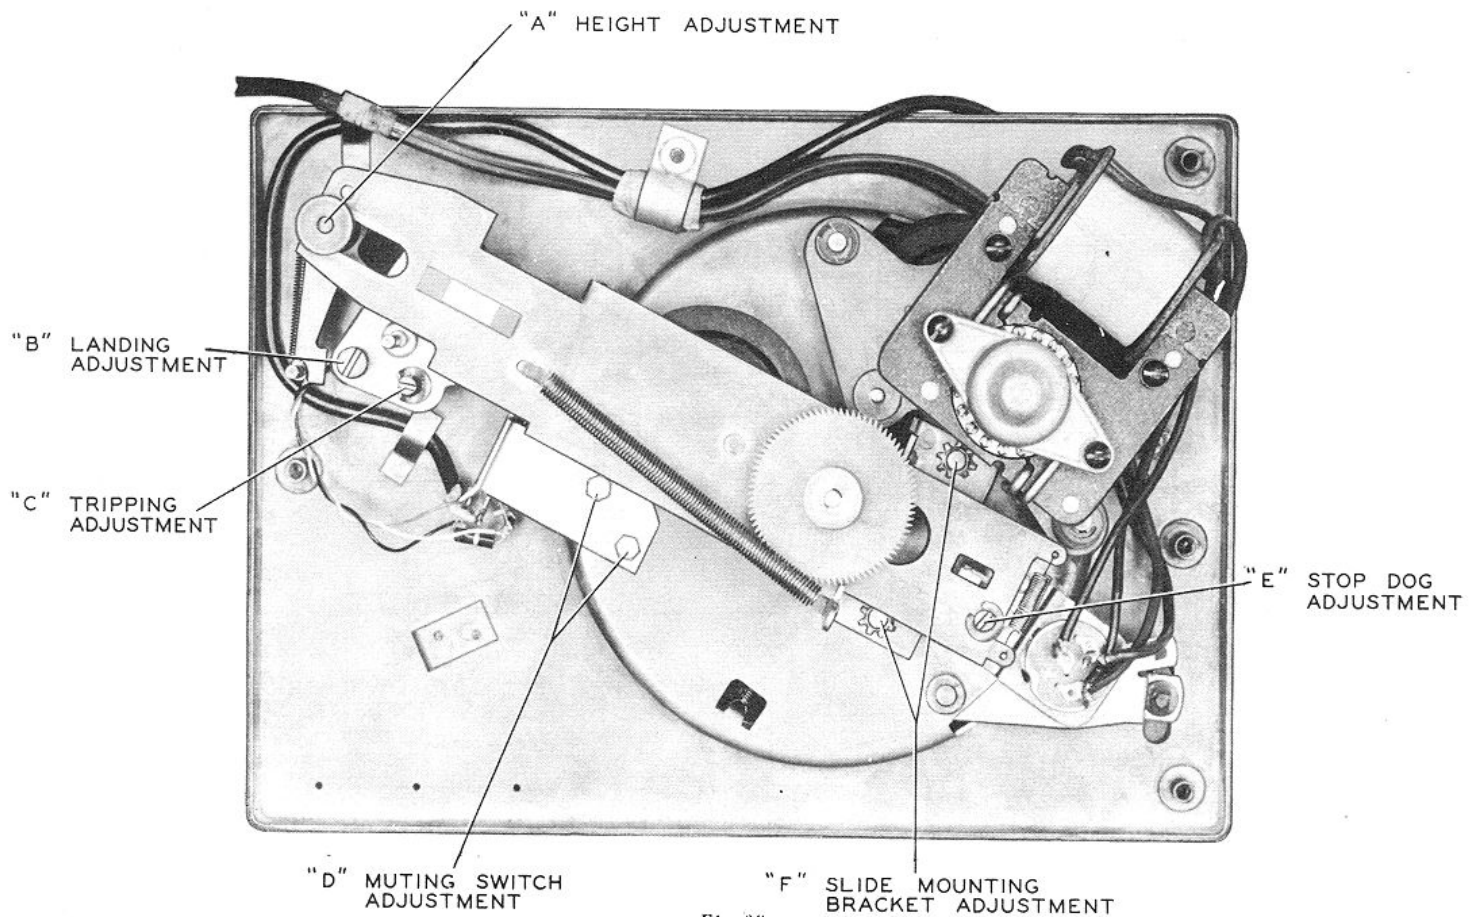

Fig. 38
Under ordinary conditions the landing adjustment is a screw-driver adjustment as shown. The adjustment of eccentric landing adjustment stud (B) gives approximately a  $\frac{1}{4}$ " movement. (See Figs. 38, 40.)
5. Exact landing adjustment can now be made by a screw-driver on stud (B). (See Fig. 38.)
### Pickup Height Adjustment (See Fig. 38):
### Mounting Bracket Adjustment (See Fig. 38):
### Muting Switch Adjustment (See Fig. 38):
### Stop Dog Adjustment (See Fig. 38):